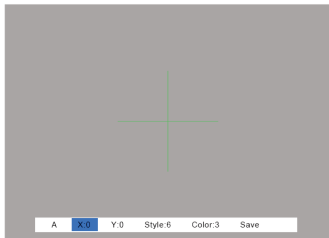

Fig. 9
(3) **Profile setting:** Once on the zeroing page, press [Key 3] or [Key 5] create a new zeroing profile or edit an existing one (Fig. 9).